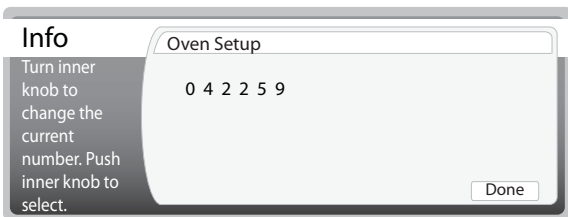

Figure 4.13: Input Password
3. Input the code 042259 (Figure 4.13).